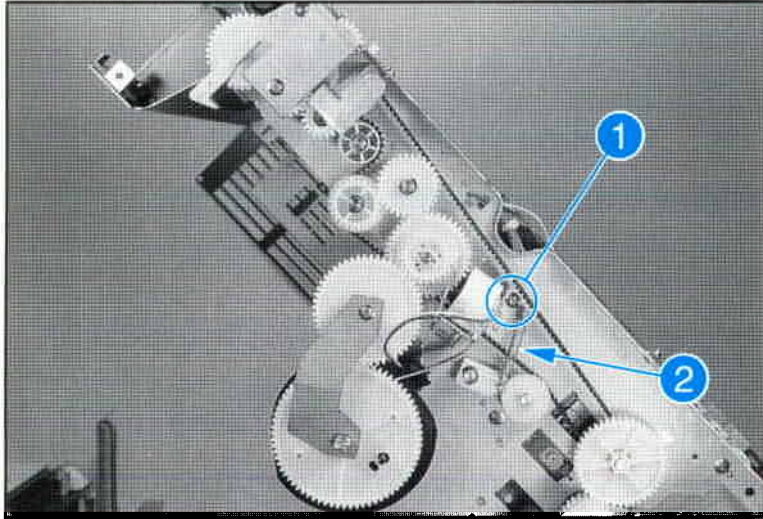

Figure 6-27      Transfer Cam Solenoid (SL4) Removal
2. Remove the spring from the idler roller shown in Figure 6-27, item 2.
3. Remove (1) M3X4 screw that holds the solenoid (see Figure 6-27, item 1). Remove the solenoid.